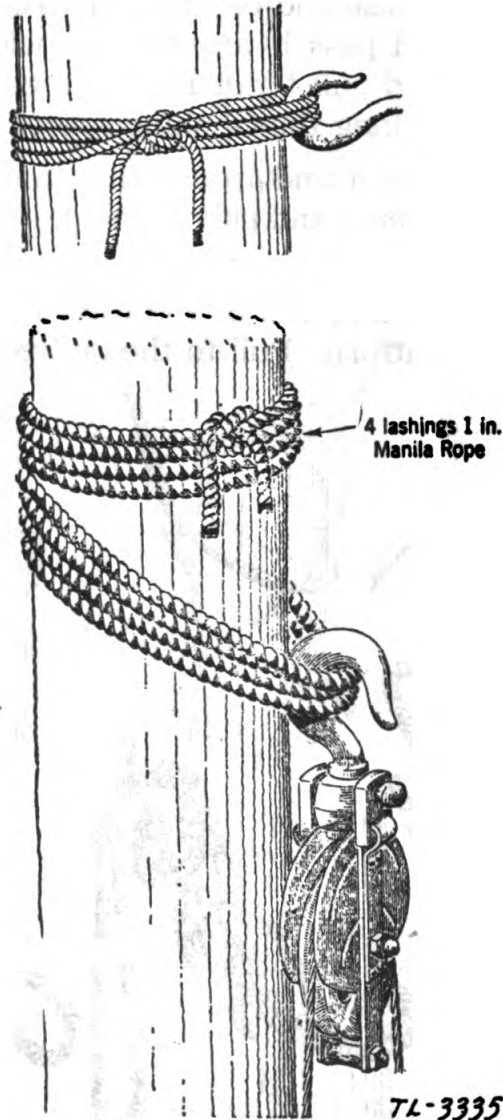

Figure 19
n. Lashing.—Lashings are used when a temporary attachment is desired. The ease of attaching and detaching and the safety factor, will determine the type of lashings that will be used in various conditions. Lashings to be used where the pull is perpendicular to the axis of the pole and where the pull is parallel to the axis of the pole are shown in figure 19.